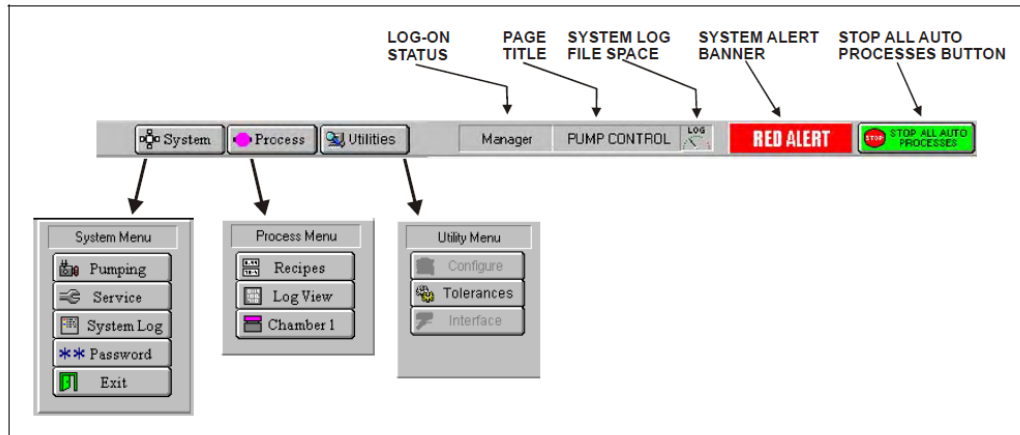

Figure 1: Top toolbar
- i. Log in by clicking the login status box on the top of the screen. (Fig. 1)
- ii. Open the pumping menu by clicking “System” then “Pumping” (Fig. 1)
- i. Select “PROCESS” in the top left of the screen. (Fig. 1)
- ii. Select “Recipes”. (Fig. 1)
- i. Go to the pump control page by selecting “System” then “Pumping” (Fig. 1)
- viii. Log out by clicking the login status box on the top of the screen then click “Verify” (Fig. 1)